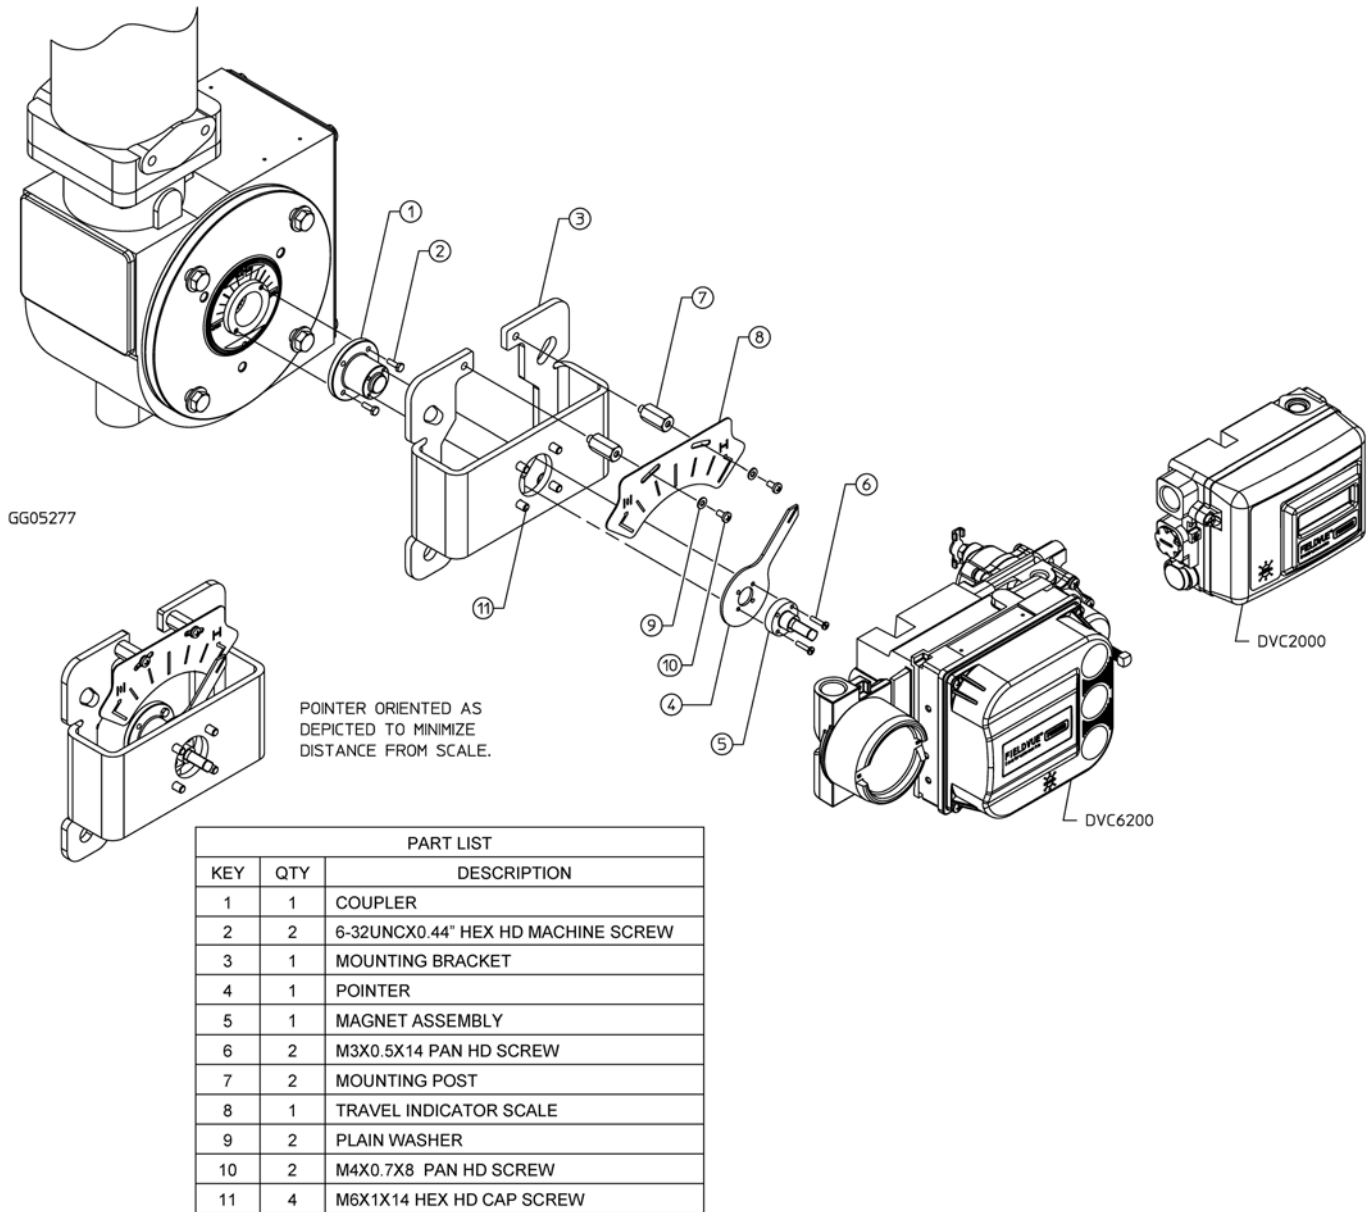

Figure 2. Mounting Parts Identification
Refer to figure 2 and the parts list for mounting parts identification. Refer to the DVC6200 or DVC2000 instruction manual for instrument parts identification. Refer to the appropriate actuator instruction manual for actuator installation, operation, maintenance, and parts identification.
3. Attach the coupler (key 1) to the actuator shaft using the hex head machine screws (key 2) and tighten. For best visibility, the coupler should be oriented on the shaft so that the pointer will rotate in the quadrant above or below the instrument as shown in figure 2.
5. Attach the mounting bracket (key 3) to the actuator cover, but do not tighten the cap screws.
6. Place the pointer (key 4) before attaching the magnet assembly (key 5) to the coupler using pan head screws (key 6) and tighten.
8. Attach the mounting posts (key 7) to the mounting bracket and tighten.
9. Attach the travel indicator scale (key 8) to the mounting post using two plain washers (key 9) and pan head machine screws (key 10). Refer to figure 2.
10. Attach the digital valve controller to the mounting bracket using four hex head cap screws (key 11) but do not tighten the screws. Visually adjust the digital valve controller so that the magnet assembly is centered in the housing channel and then tighten the fasteners. Recheck the magnet assembly position again after tightening.